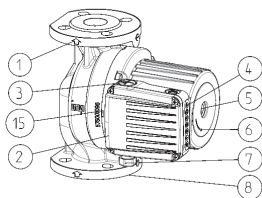
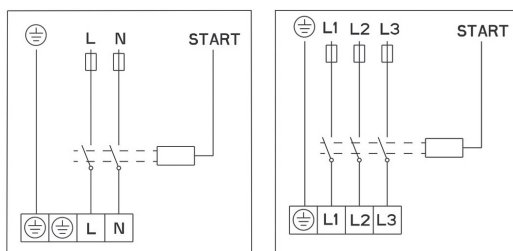

Fig.1
Fig. 3
- The pump should be incorporated into piping system with the pump axis 1-1 in horizontal position (Fig. 3).
- Direction of water flow through the pump should match with direction, indicated by an arrow on the pump casing (Fig.1-POS.1).
- The connecting flanges are designed for nominal pressure NP 6/10 (Fig.1 – POS.8).
- GHN (basic, auto), GHNM (basic, auto) pumps have a single hydraulic casing (Fig.1 – POS.8).
The hydraulic casing of the pump can be insulated only to the cleft between the motor and the hydraulic casing. Openings for condensate drainage should remain uncovered and enable the drainage from the stator housing. Similarly, the same openings must be uncovered also in heating systems, when only thermal insulation of hydraulic casing is implemented (Fig. 1, 2, POS. 15). Electric motor casing, on which the openings for condensate drainage are located, under no condition should not be insulated!
The connecting wire has to be connected over a cable entry M20 (Fig.1 – POS.7).
Electrical connections of the pump must be carried out in accordance with the wiring diagram (Fig. 3), attached on the bottom of motor cover. Before doing that unwind the upper cover (Fig. 1 - POS. 2).
In the pumps of types GHN (basic auto), GHND (basic, auto), GHNMD (basic, auto), GHNMD (basic, auto) the rotor is submerged and provided with special water-lubricated bearings. Before putting the pump into operation, it has to be filled with water and deaerated. Deaerate the pump by unscrewing a screw on the back side of the electric motor (Fig.1-POS.5). Air will flow out through the cleft between the motor shaft and the bearing. When water starts to flow out, close the valves at both the suction and pressure side of the pump. Start the pump and check the direction of shaft rotation. In case of a wrong direction a built-in flash lamp will start to blink with red light.
Each pump is able to cover the areas of three hydraulic characteristics. To achieve this, it has an inbuilt electric motor with three different revolution speeds. For achieving the selected characteristics or speeds ① ② ③, the pump has a push button ⊙ (Fig.1-POS. 4), with which we change speeds.
Switch off the pump, close the valve on both pressure and suction sides of the pump, unscrew the vent for deaeration, place the screwdriver (Fig.1-POS.5) in the notch on the shaft and twist as longer as friction forces allow. Then screw the vent for deaeration.